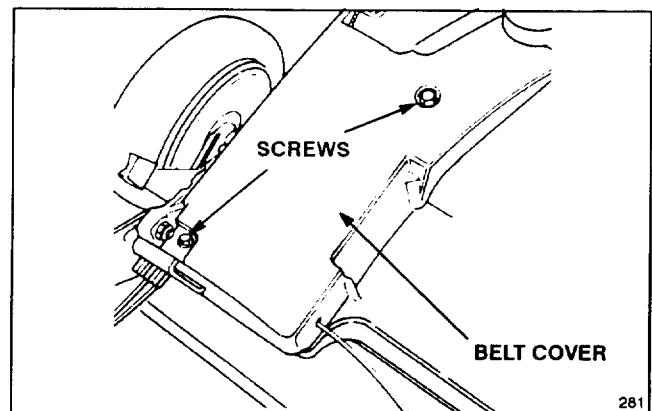

Figure 10
6. Remove screws securing belt cover (Fig. 10) to mower housing. Lift off cover and brush out all debris from belt area. Reinstall belt cover.